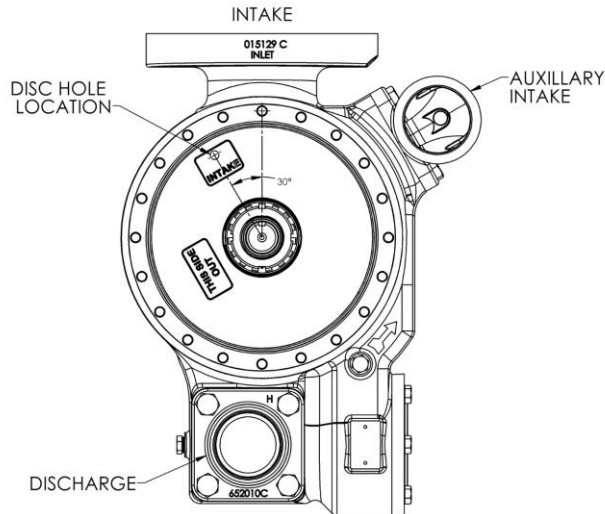

Figure 5 - Disc Relief Hole Location
1. Install the liner key (74) in the groove on top of the liner (41).
2. Align the liner key (74) with the pump casing keyway and start the liner (41) into the casing (12) with the slots in the liner towards the INTAKE port, and the hole pattern in the liner towards the DISCHARGE port. Uniformly tap the outer edge of the liner with a rubber mallet to fully insert into the casing. NOTE: If the liner is installed backwards, it will restrict the port openings and cause cavitation, noise and loss of capacity.
3. Place the disc (71) against the liner (41) with the seal cavity outward and disc relief hole located as shown in Figure 5.
- c. After the bottom vanes and push rods are installed, insert the rotor and shaft (13) fully into the casing (12).
- d. Install the remaining vanes (14) into the top positions of the rotor.
6. Install the disc (71) on the inboard side of the pump with the seal cavity facing outward and the disc relief hole located as shown in Figure 5.